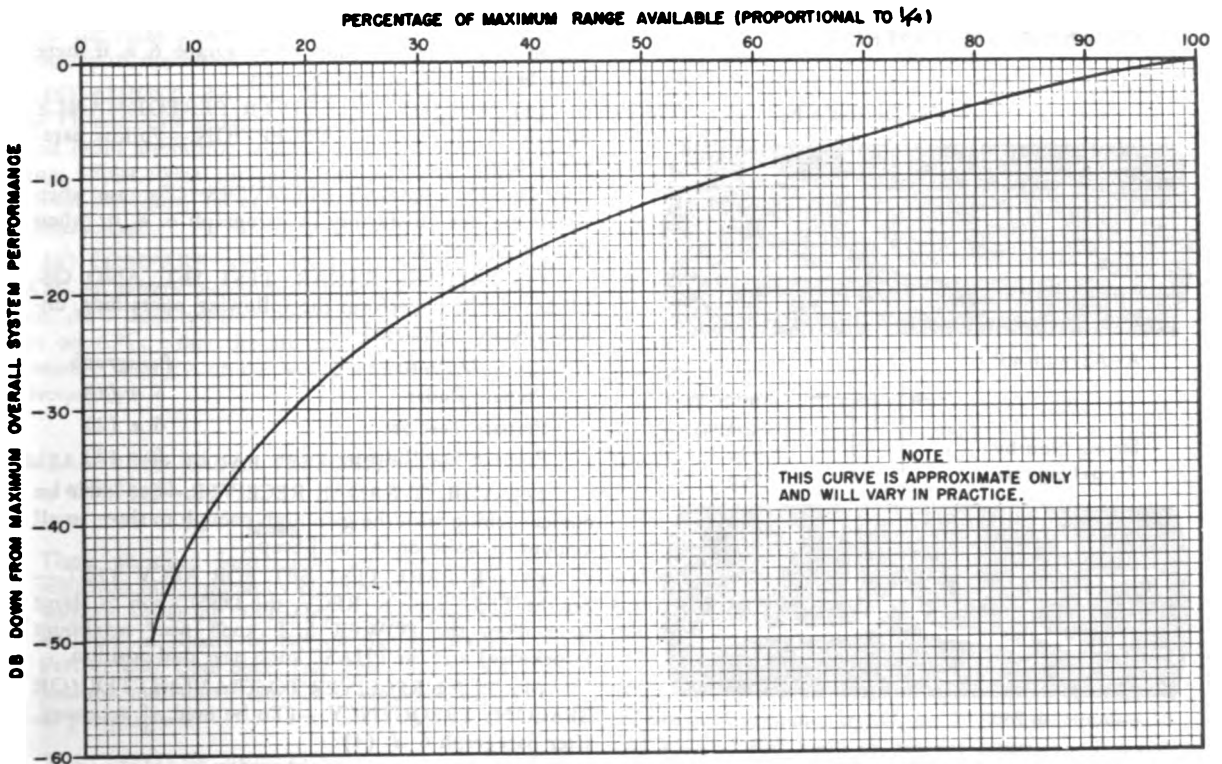

Figure 3-11. Radar Performance Versus Radar Range
3. The effect on range can be obtained by reference to figure 3-11.